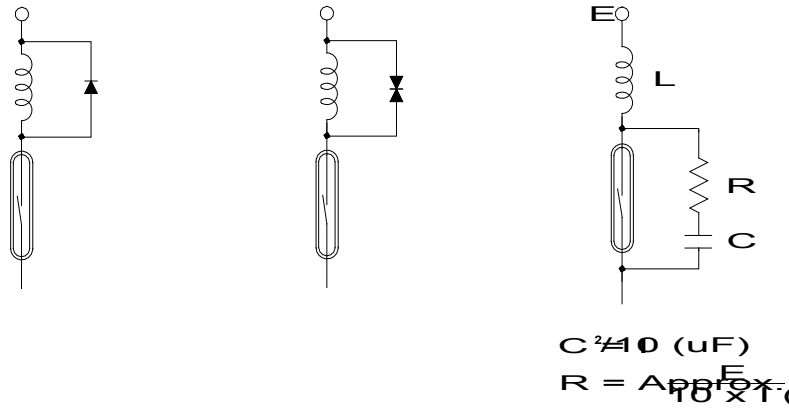

Figure 2.2
- For inductive loads or high-voltage/high-current resistive loads, provide circuit protection for switch(es) (See Figure 2.2). See Specifications on page 2 for switch ratings. Circuit protection must be located in non-hazardous areas.